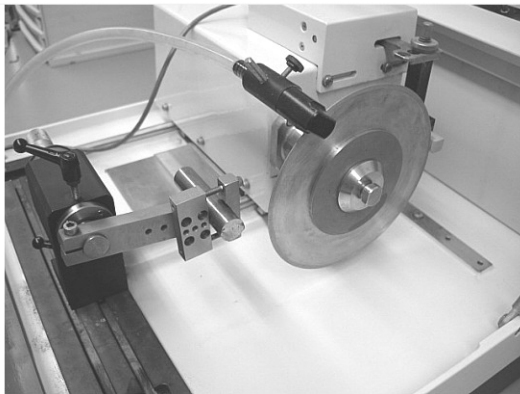

Figure 9 Positioning the specimen
2. Turn the hand crank clockwise until the blade is beyond the chuck position (see Figure 9).